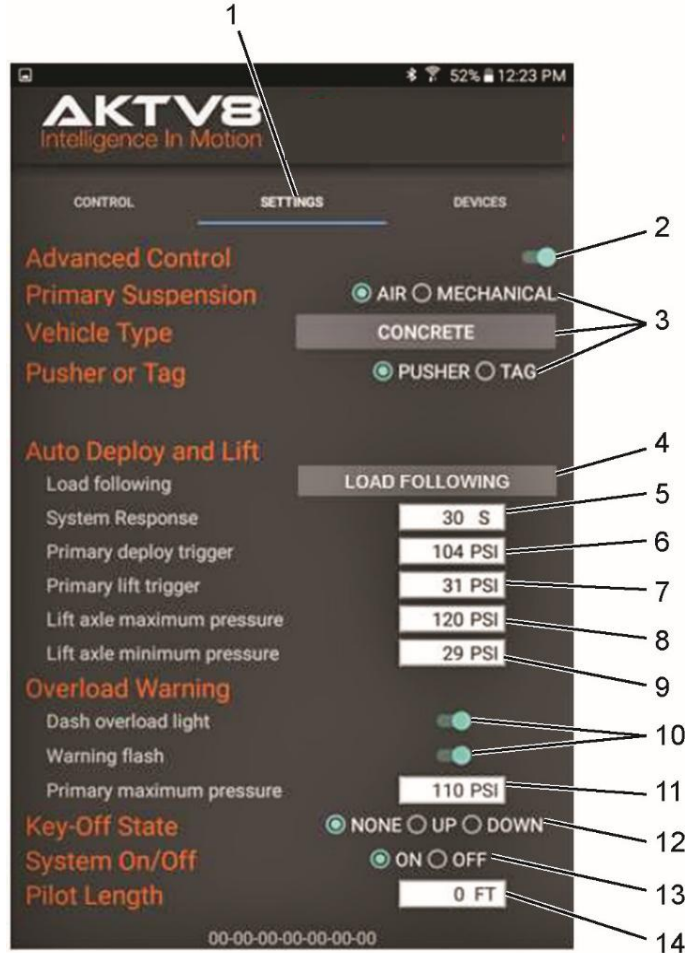

Figure 14
**NOTE:** To confirm the module is connected to the App, swipe to **CONTROL** (Figure 13, Item 1) and confirm screen looks like (Figure 14). Once confirmed go back to **DEVICES** (Figure 13, Item 1).
1. Touch or swipe to **SETTINGS** tab (Figure 14, Item 1).
2. Touch to toggle on **Advanced Control** (Figure 14, Item 2).
3. Touch to select the features (Figure 14, Item 3) that apply to the vehicle.
4. Touch to select controls (Figure 14, Item 4) **DEPLOY TO Pressure Following**
5. Touch System Response window (Figure 14, Item 5) and set system response (typically 20 to 60 seconds).
6. Touch Primary deploy trigger window (Figure 14, Item 6) and set pressure for the primary deploy trigger. Recommended is 6 to 10% below maximum legal primary suspension pressure.
7. Touch Primary lift trigger window (Figure 14, Item 7) and set pressure for the primary lift trigger. Recommended is 60 to 65% below maximum legal primary suspension pressure.
8. Touch Lift axle maximum pressure window (Figure 14, Item 8) and set maximum pressure when fully loaded.
9. Touch minimum pressure window (Figure 14, Item 9), don't change, does not apply.
10. Touch to toggle on/off warning light functions (Figure 14, Item 10) as desired.
11. Touch Primary maximum pressure window (Figure 14, Item 11) and set maximum pressure.
12. Touch to select desired Key-Off State (Figure 14, Item 12), this function is not used.
13. Touch to select desired System On/Off (Figure 14, Item 13).
14. Touch Pilot Length window (Figure 14, Item 14) and set estimated pilot line length.